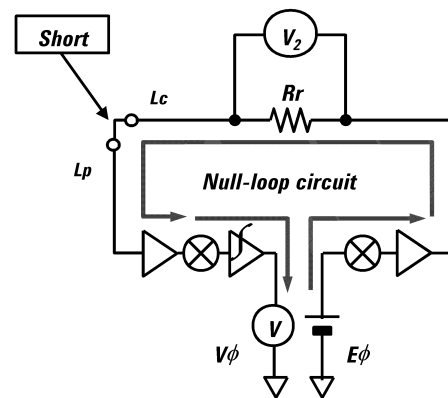

Figure 6. Bridge circuit stability improvement by phase compensation
In the null-loop circuit, shown in Figure 6, the signal source ($E\phi$) is located in front of the vector generator, and the vector voltmeter ($V\phi$) is located after the integrated circuit. When connecting both low terminals, L_p and L_c , together, the output signal from the signal source ($E\phi$) can flow clockwise through the null-loop circuit, and is measured at the vector voltmeter ($V\phi$) in order to characterize the whole null-loop circuit. By performing this phase compensation, the ABB circuit acquires the capability to balance both at high frequencies, and when long extension cables are used.
As shown in Figure 6, the phase compensation function is available on the 4294A.
As shown in Figure 6, the phase compensation function is available on the 4294A. After setup is complete, phase compensation should be performed.
- Connect the two low terminals, Lp and Lc, together as shown in Figure 6. When using the DCP probe (non-Kelvin type) from Cascade Microtech, the probe should be floating from the chuck because both terminals already have been connected together in the probe. When using the Kelvin probe, Lp and Lc terminals should be connected together by using the short on the ISS, which is provided from Cascade Microtech.